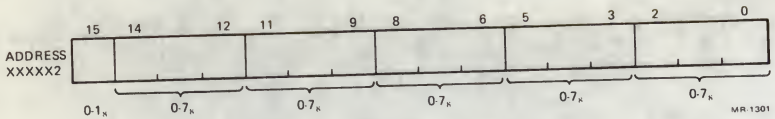

Figure 12 Bus Address Register
**Burst Mode vs. Single Cycle DMA** — Single cycle DMA allows the asynchronous transfer of data to or from the user's device. Each time the user's device is ready for a transfer, the user asserts CYCLE REQUEST for 1  $\mu$ s. A DMA cycle is requested from the LSI-11 bus, and when the bus is granted to the DRV11-B, the BUSY line is asserted to inform the user that a data transfer is underway. The user must set up input data when CYCLE REQUEST is asserted, and hold it valid until the next assertion of CYCLE REQUEST. The user must strobe output data out of the DRV11-B on the rising edge of BUSY. The data will be valid 250 ns minimum before the rising edge of BUSY. (Figures 12 and 13 are detailed timing diagrams.)